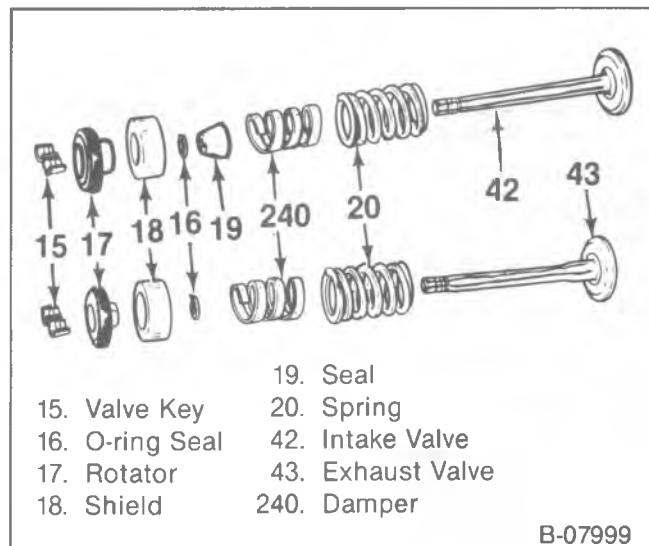

Figure 34—Valves and Components
Disassemble (Figures 34, and 35)
Assemble (Figures 34, 35, and 39)
**Measure (Figures 34, 40, and 41)**